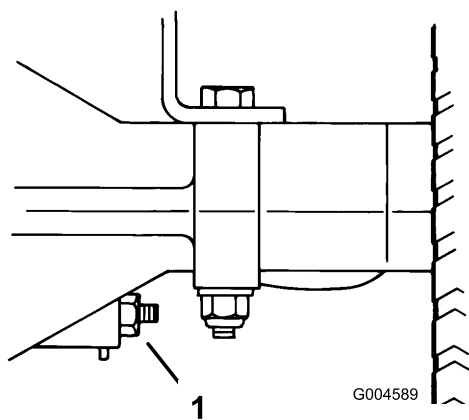

Figure 31
2. To increase the braking resistance, tighten the brake adjusting nut (Figure 31) 1/8 turn clockwise.